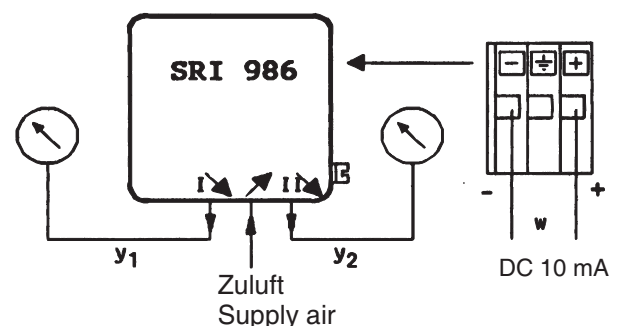

Fig. 25: Test circuit for double acting positioner
- g) Connect positioner as shown in the test circuit, fig. 25, preset supply air to 6 bar.